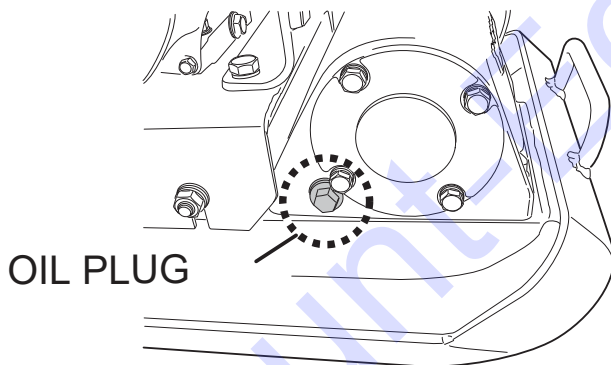

Figure 3. Oil Check
2. Remove the oil plug and visually check the oil level (Figure 3).